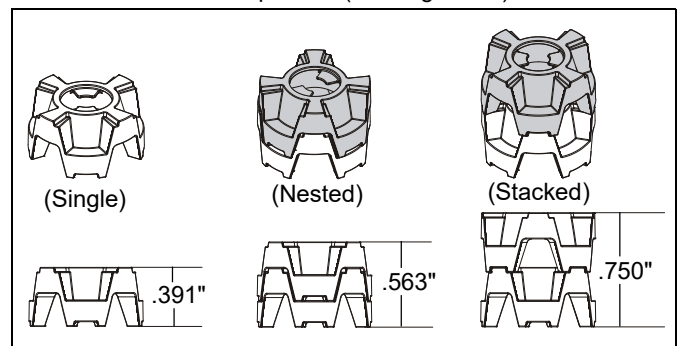

Figure 13
NOTE: The nesting spacers (MA) may be used separately, or put two together in different configurations to create different size spacers. (See Figure 13)